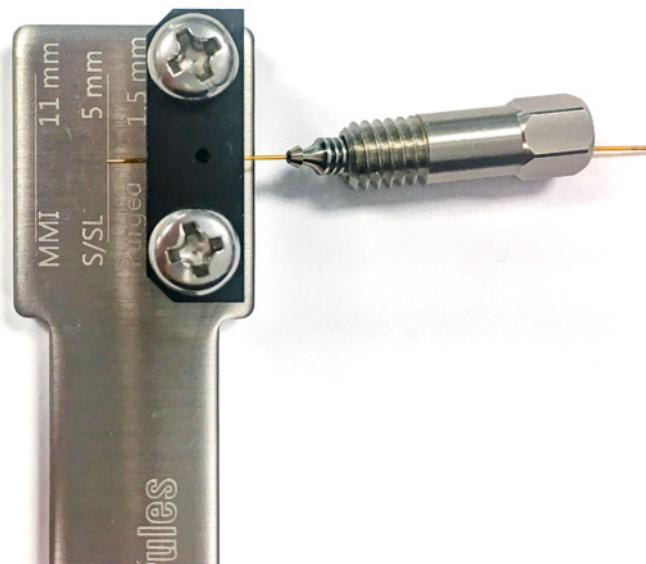

Figure 13. Thread the column through the column nut, ferrule, and swaging tool
- 3 Pass the column end through the column nut, the ferrule, and the swaging tool, as shown in **Figure 13**.